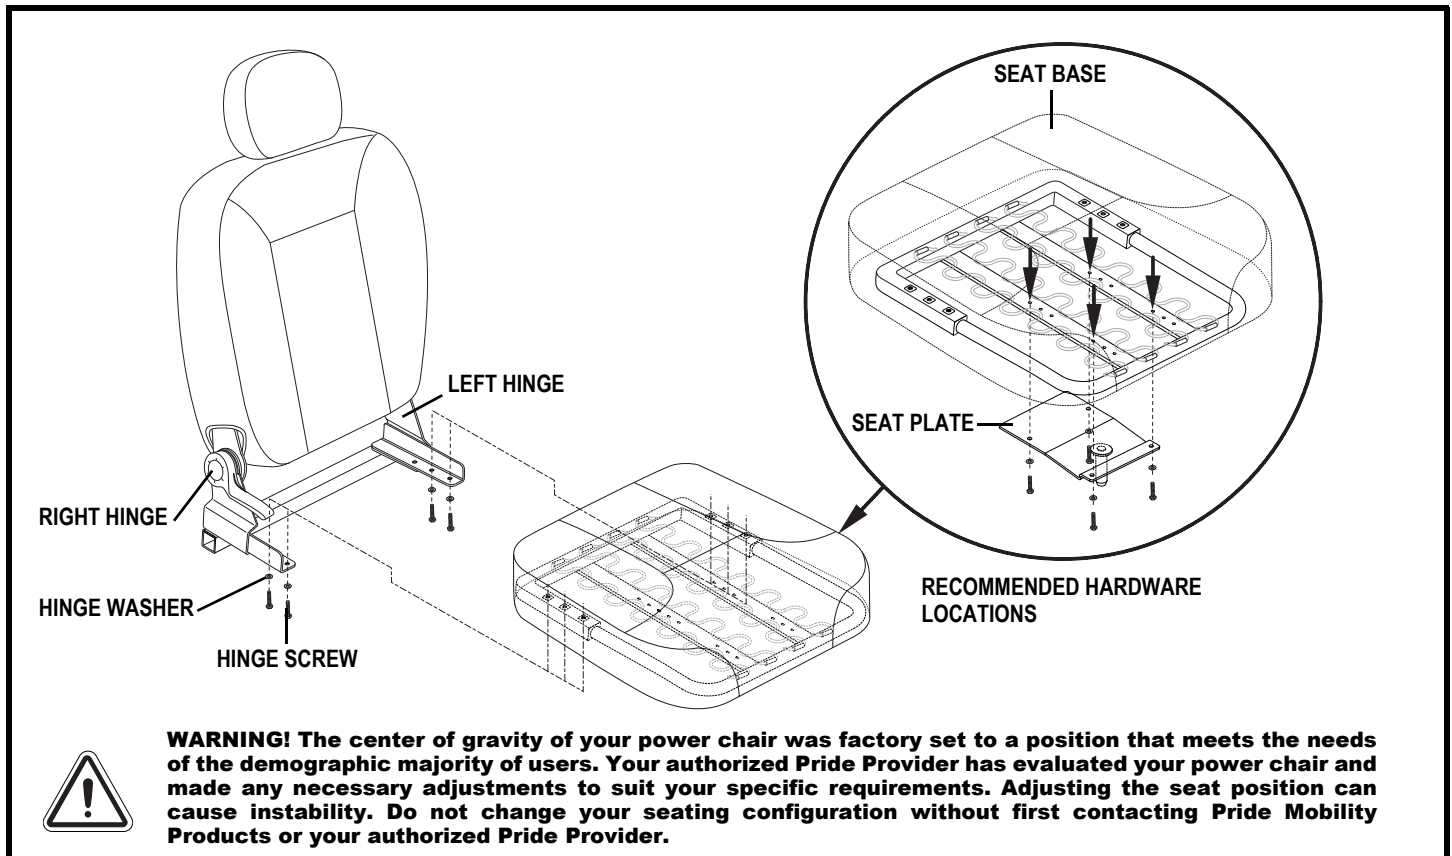

Figure 13. Seat Position Adjustment
6. Remove the hinge screws and hinge washers from the bottom of the left and right hinges. See figure 13.